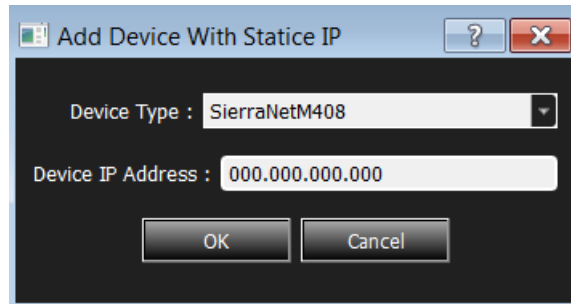

Figure 1.33: Add New Device with Static IP Address
**Note:** When entering addresses, you must include the leading zeros. Use 003.010.195.006 as entering 3.10.195.6 will not work. This is also applicable for Figure 1.33 on page 25.